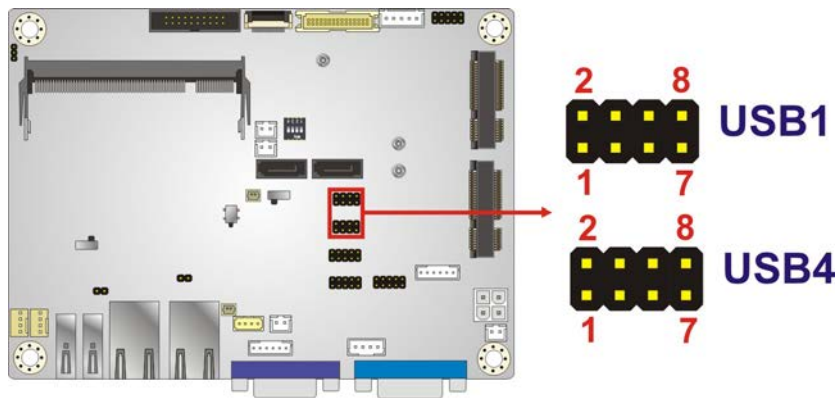

Figure 3-23: USB Connectors Locations
- CN Location:** See **Figure 3-23**